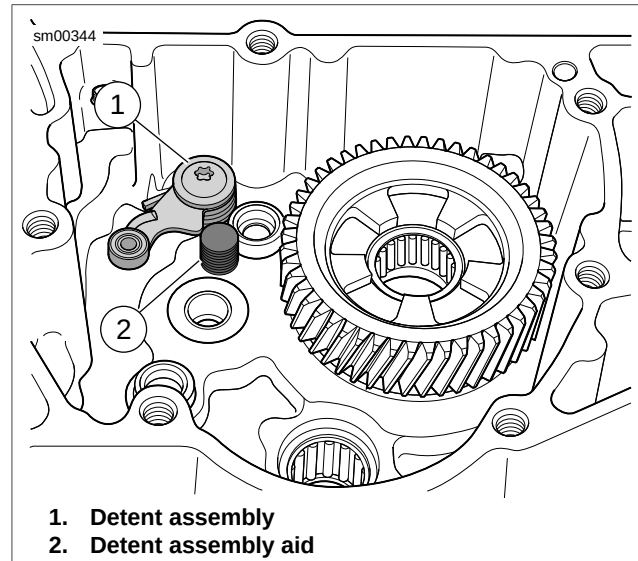

Figure 6-91. Using Gear Detent Assembly Aid
2. See Figure 6-91. Retract detent assembly in right case half and install GEAR DETENT ASSEMBLY AID (Part No. B-45520) until it has bottomed in right case half.